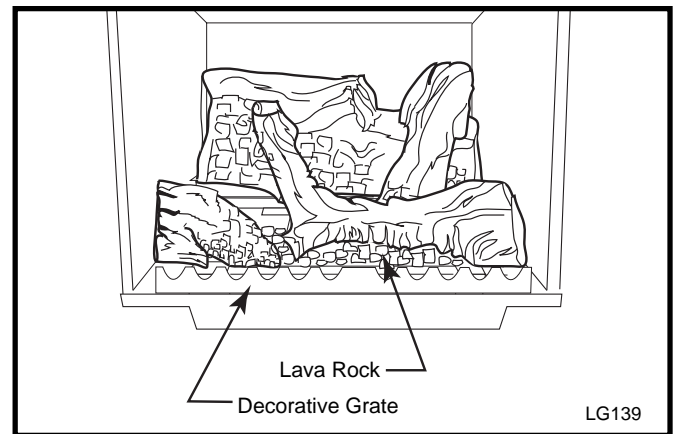

Fig. 44 Place lava rock on burner.
4. Sprinkle lava rock on burner in front of, and between, left and right logs. (Fig. 44)